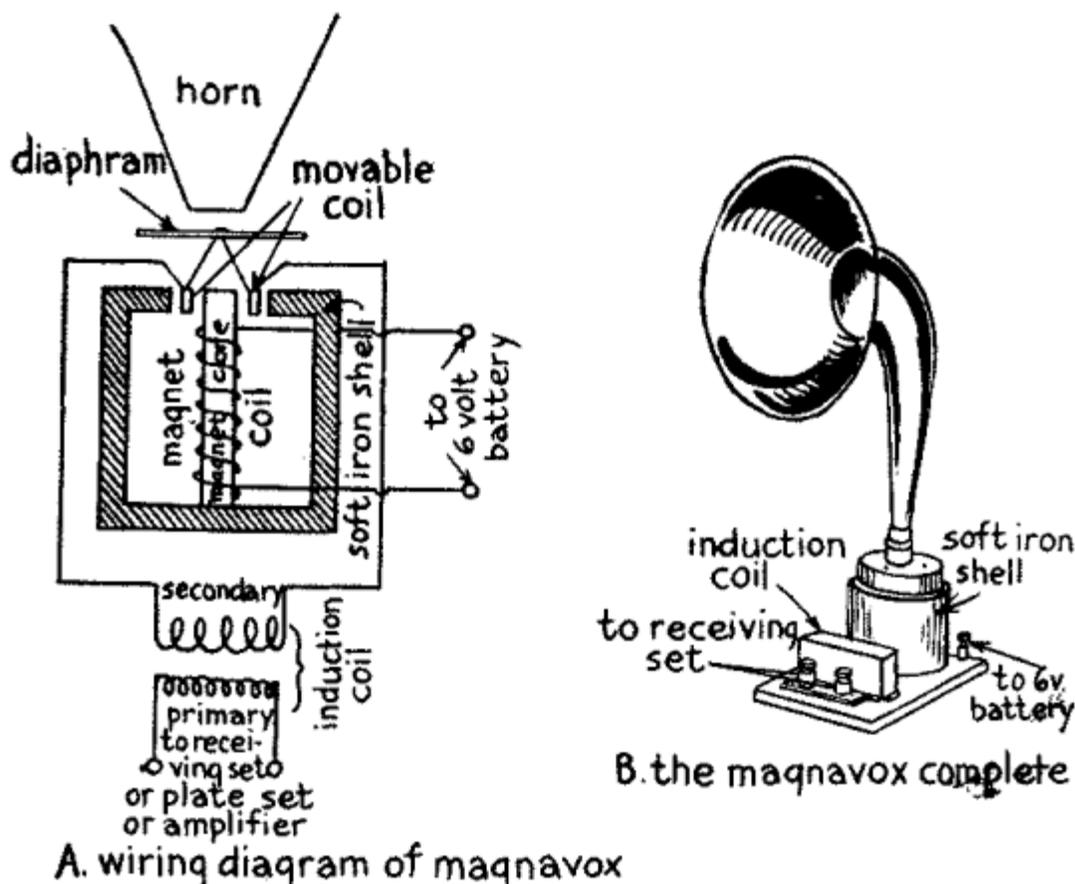

FIG. 68.—Magnavox Loud Speaker.
coil, and (3) a 6 volt storage battery that energizes a powerful electromagnet which works the diaphragm. An electromagnet is used instead of a permanent magnet and this is energized by a 6-volt storage battery as shown in the wiring diagram at *A* in *Fig. 68*. One end of the core of this magnet is fixed to the iron case of the speaker and together these form the equivalent of a horseshoe magnet. A movable coil of wire is supported from the center of the diaphragm the edge of which is rigidly held between the case and the small end of the horn. This coil is placed over the upper end of the magnet and its terminals are connected to the secondary of the induction coil. Now when the coil is energized by the current from the amplifiers it and the core act like a solenoid in that the coil tends to suck the core into it; but since the core is fixed and the coil is movable the core draws the coil down instead. The result is that with every variation of the current that flows through the coil it moves up and down and pulls and pushes the diaphragm down and up with it. The large amplitude of the vibrations of the latter set up powerful sound waves which can be heard several blocks away from the horn. In this way then are the faint incoming signals, speech and music which are received by the amplifying receiving set reproduced and magnified enormously. The *Telemegafone* is shown complete at *B*.